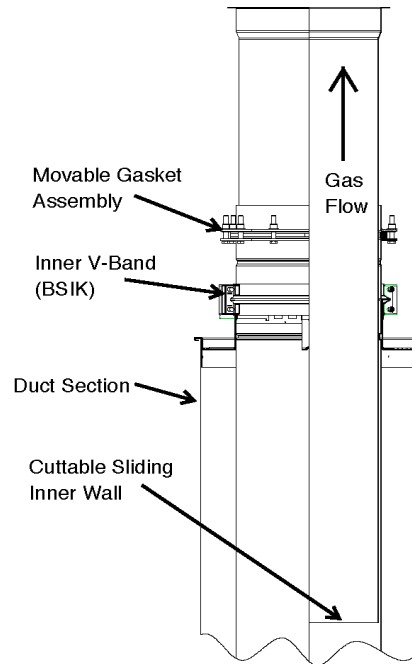

Figure 16 - Installation of Adjustable Length Steps 1 & 2
2. Secure the double flanged part of gasket collar assembly to the inlet end section with the inner V-band (BSI). See Figure 16.